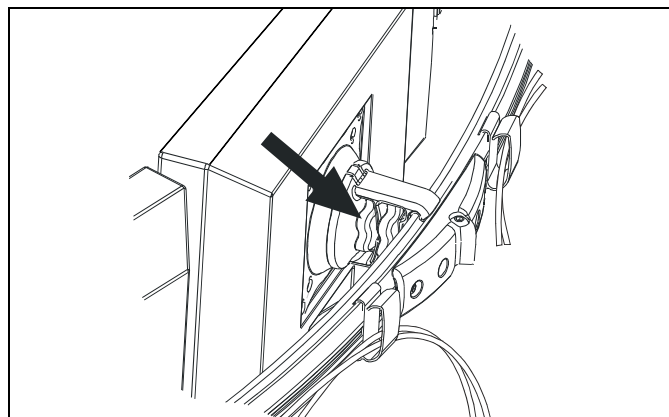

**Figure 12: Display Horizontal Adjustment**
1. Loosen Centris bracket rear adjustment knob. (See Figure 12)